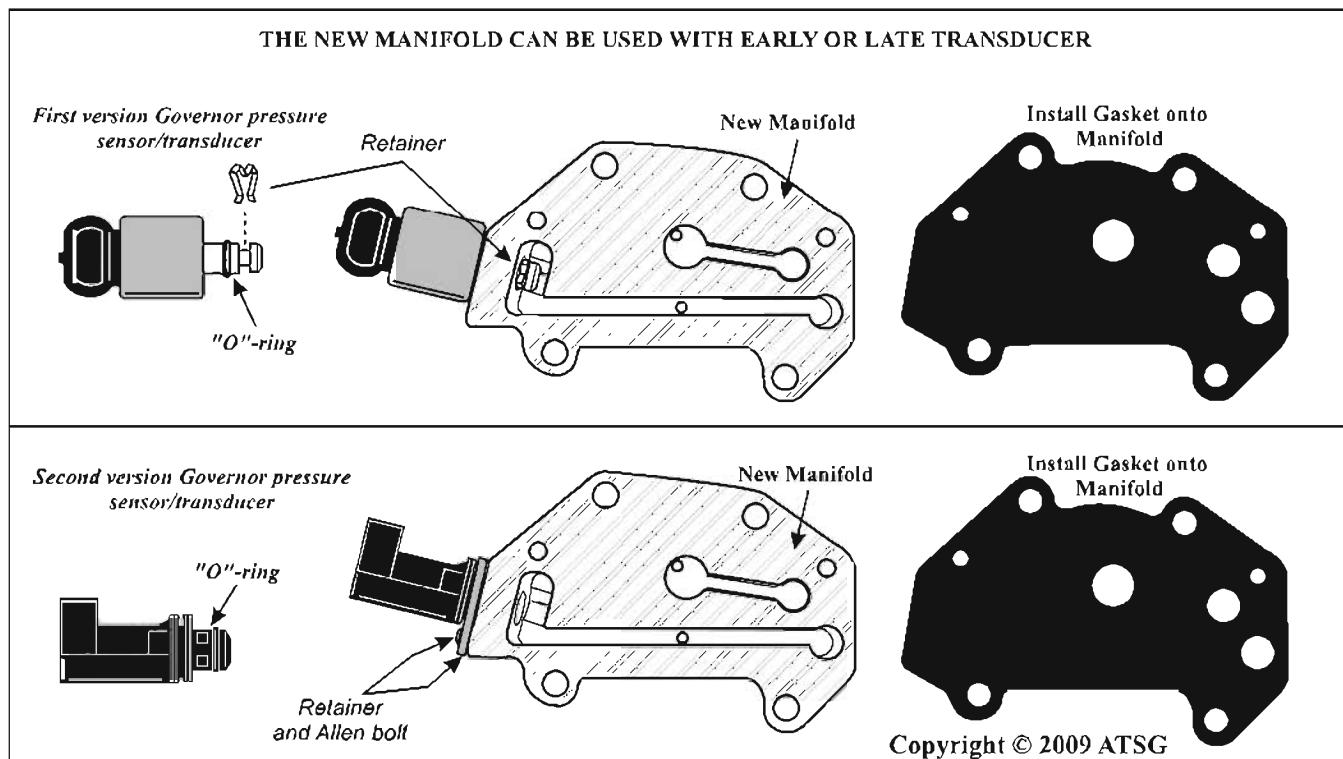

Figure 3
*Refer to figure 3 to see that the new Manifold can be used with early and late Transducer.*